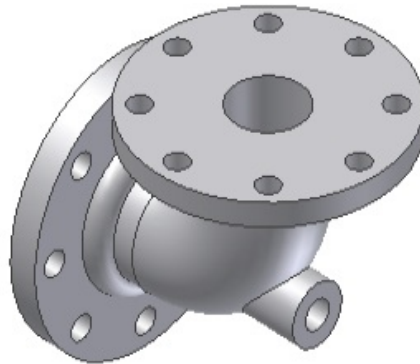
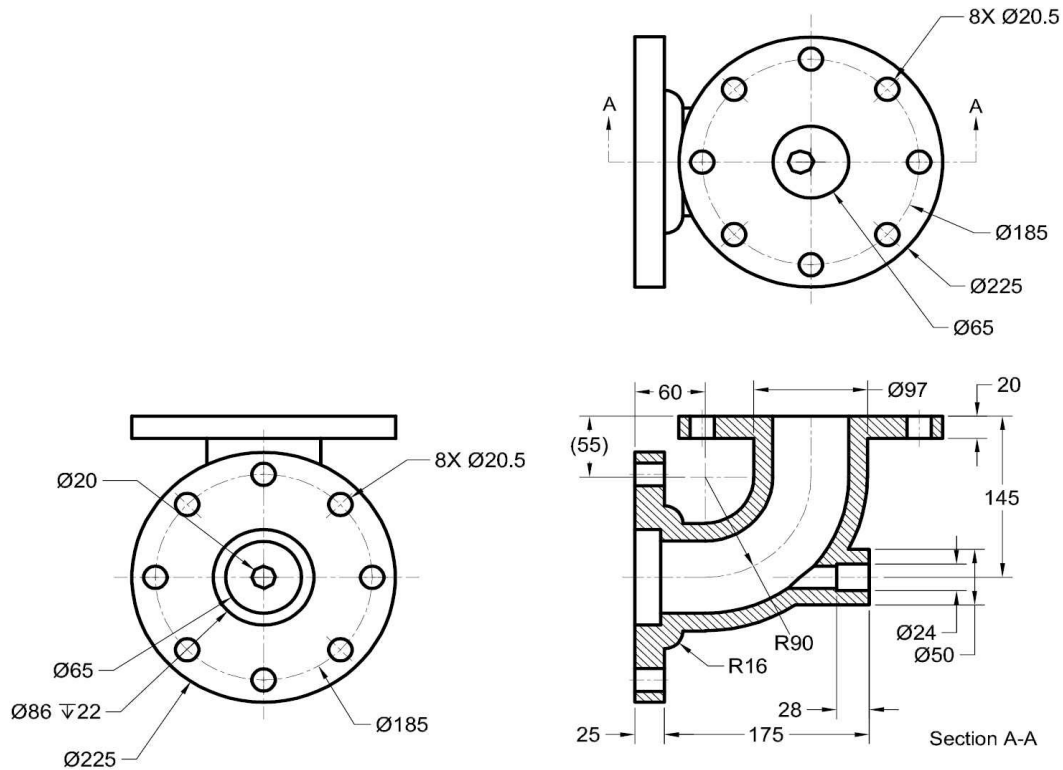

Figure 8-140a Model for Tutorial 1
Figure 8-140b Views and dimensions of the model for Tutorial 1
In this tutorial, you will create the model shown in Figure 8-140a. Its dimensions are given in Figure 8-140b. **(Expected time: 45 min)**
1. Create the remaining features by defining new sketch planes at the left face of the first feature that you created. Draw a circle of 225 mm. Exit the Sketching environment and then extrude the circle to a distance of 25 mm. For dimensions, refer to Figure 8-140b. Similarly, create the same feature on the top face of the first feature.